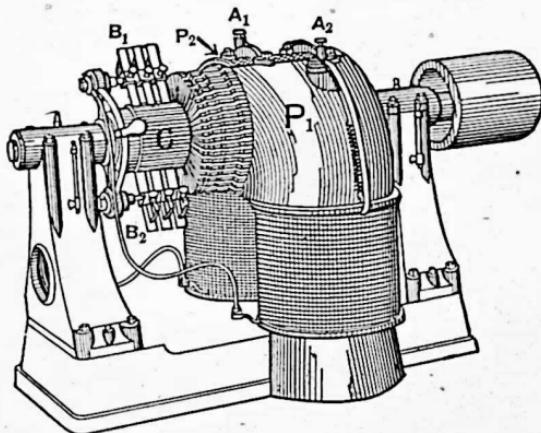
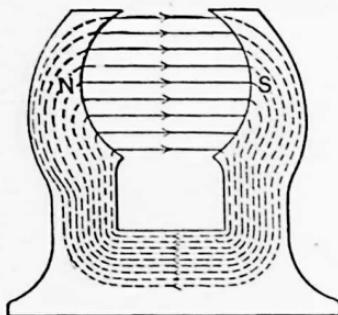
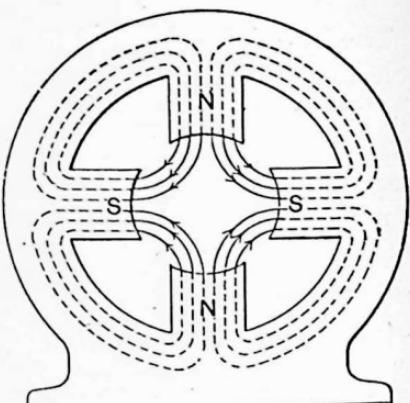
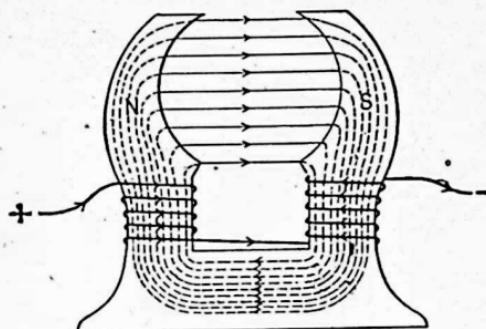

FIG. 100. Simple old-type two-pole generator.
FIG. 106. Diagram of the magnetic lines in a two-pole generator.
FIG. 107. Magnetic lines in a four-pole generator.
FIG. 112. The current in the coils produces the magnetic field.
52. Voltage Generated in Armature Wires. Fig. 100 represents the simplest form of two-pole direct-current generator or motor. As a generator, the power is delivered by
54. **Magnetic Field of a Motor.** The magnetic field of the two-pole motor in Fig. 100 is merely the field of a bar magnet bent into a horse shoe as in Fig. 106. Note that here, too, the lines come out of the north pole and enter the south pole, go through the yoke and back again to the north pole. The armature revolves in the field between the north and south poles, and the wires on it cut the magnetic lines of the field and produce a voltage across the commutator, where it is transmitted to the brushes. Fig. 107 shows the field of a four-pole motor. Note that the lines come out of a north pole and go into a south pole, and that north poles and south poles alternate around the frame.
It will be noted that around the pole pieces P_1 and P_2 of Fig. 100, there are wound coils of wire. These coils supply the magnetizing force to the pole pieces. For when an electric current is sent through these coils a magnetic field is created, its direction depending upon the
In order to produce a field as in Fig. 106, which is the field for the machine of Fig. 100, we merely have to wind coils around the pole pieces and send a current through the coils in the proper direction, as in Fig. 112.